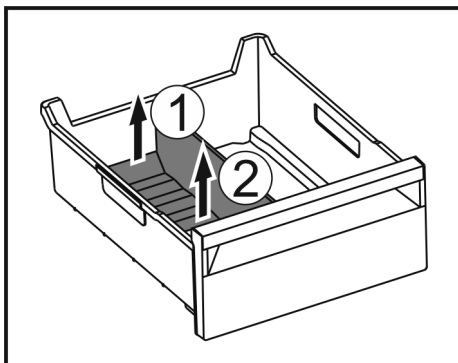

Fig. 165
- ▶ Lift the rear part of the ice compartment divider. Fig. 165 (1)
- ▶ Remove the ice compartment divider upwards. Fig. 165 (2)